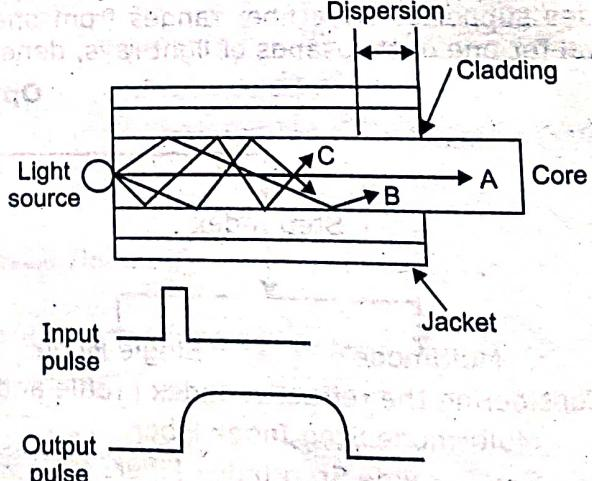

Fig. 1.8: A Multimode Step Index
- In Fig. 1.8, a short light pulse is applied to the end of cable by the source.